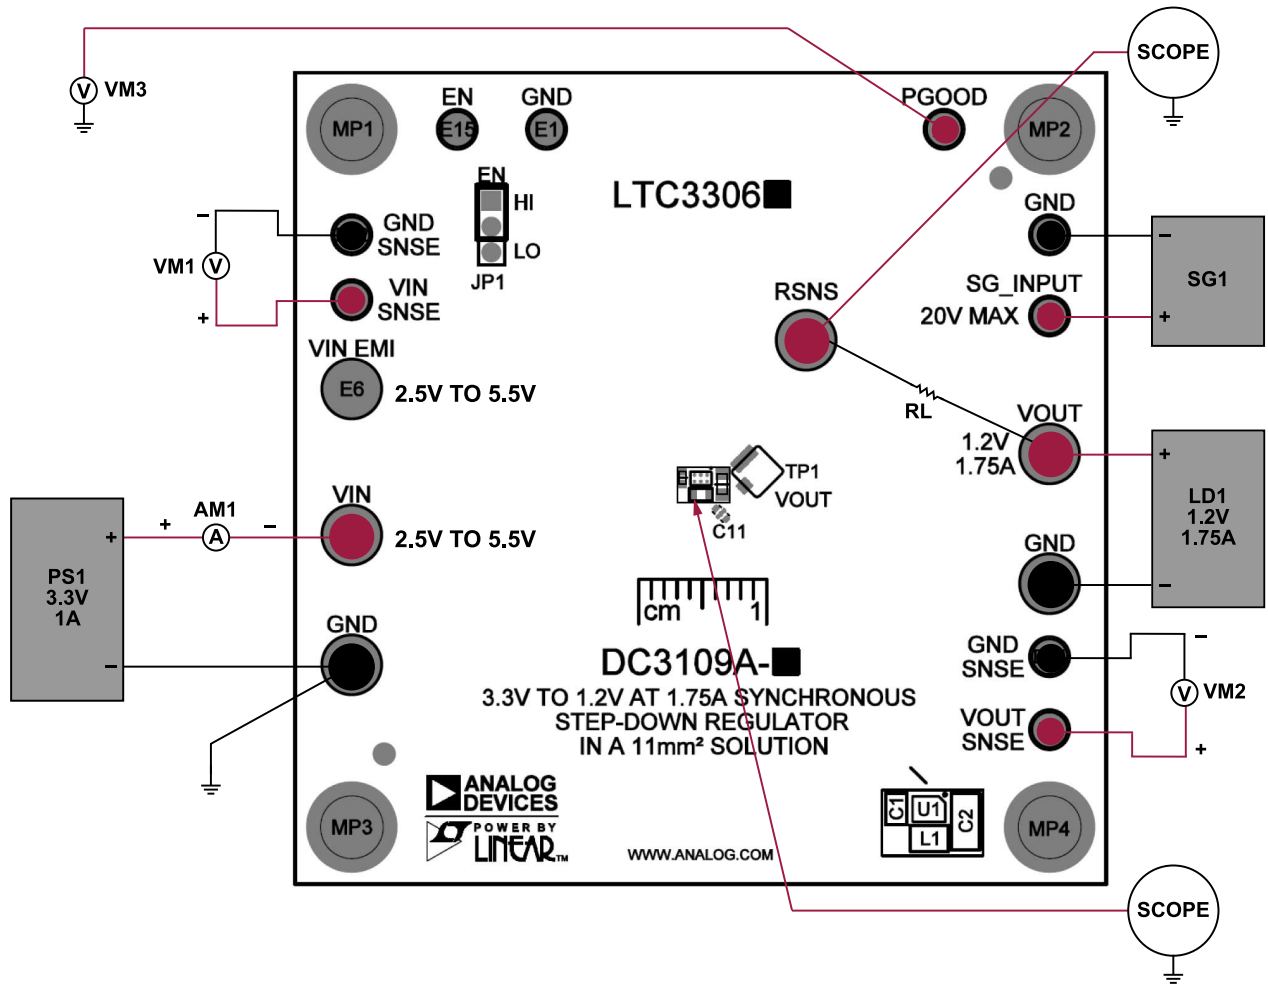
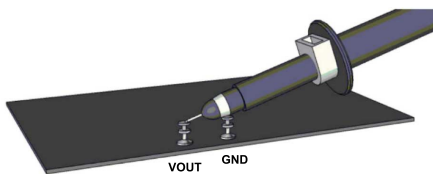
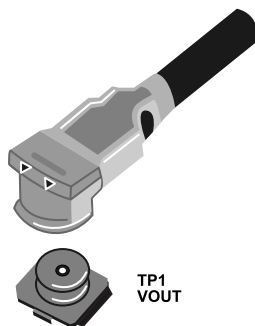

Figure 3. Test Setup for DC3109A Demo Board
Figure 4. Technique for Measuring Output Ripple and Step Response with a Scope Probe
Figure 5. Technique for Measuring Output Ripple and Step Response with a Low Inductance Connector (Not Supplied)
For the proper measurement equipment setup, see Figure 3, and follow the procedure below:
Note: For accurate V_{IN} , V_{OUT} , and efficiency measurements, measure V_{IN} at the V_{IN} SNSE and GND SNSN turrets, and measure V_{OUT} at the V_{OUT} SNSE and GND SNSE turrets, as shown as VM1 and VM2 in Figure 3. When measuring the input or output ripple, care must be taken to avoid a long ground lead on the oscilloscope probe. Measure the output voltage ripple by touching the probe tip directly across the output turrets as shown in Figure 4 or use TP1 high frequency probe as shown in Figure 5.
3. Set power supply PS1 current limit to 1 A. Set the electronic load LD1 to CC mode and 0 A current. Slowly increase PS1 to 1.0 V. If PS1 output current reads less than 20 mA, increase PS1 to 3.3 V. Verify that VM1 reads 3.3 V and VM2 reads 1.2 V. Check VM1, VM2, VM3, PS1 output current, and LD1 input current. Connect an oscilloscope voltage probe as shown in Figure 4 or a high frequency probe as shown in Figure 5. Set channel to AC-coupled, voltage scale to 20 mV and time base to 10 μ s. Check V_{OUT} ripple voltage.
4. To test the transient response with a base load, add the required resistor to produce a minimum load between V_{OUT} and RSNS turrets (RL shown in Figure 3). Note that the total load resistance is RL plus R8 (100 m Ω). Adjust a signal generator with a 10 ms period, 10% duty cycle and, an amplitude from 1 V to 2 V to start.